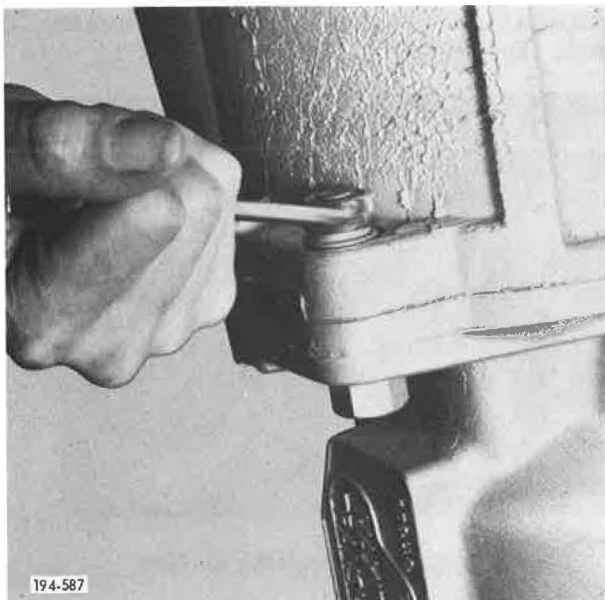

Figure 5-530. Installing Dowel Bolt
3. Install front case to rear case capscrews and dowel bolts and nuts. Tighten to recommended torque. See Figures 5-530 and 5-531. Refer to Torque and Tolerance Table, Items 9 and 10.